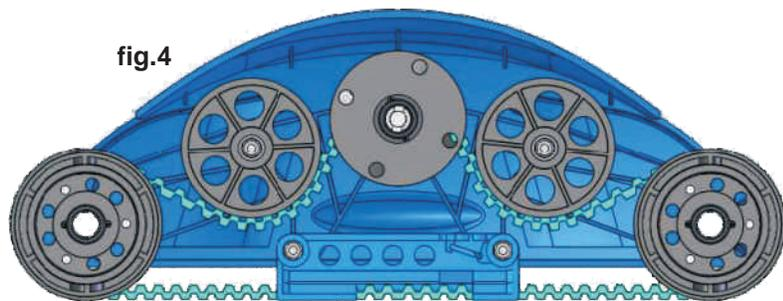

fig.4
(3) When the Side Plate is taken apart, you will notice 3 black bushings. It is a good idea to also replace these Bushings when the Drive Tracks are replaced.
(4) After the Drive Tracks and Bushings are replaced, reassemble the Side Plate as shown here. (FIG 4)